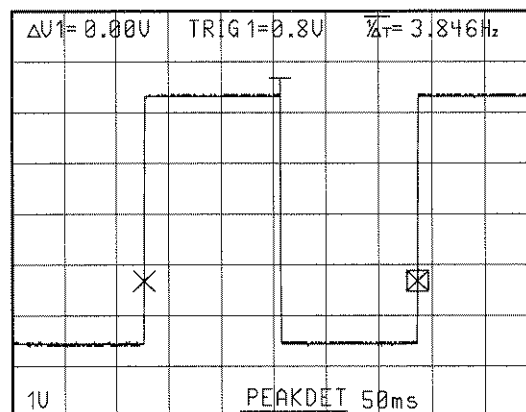

Figure 3-25: Low-Frequency Signal in the STORE Mode
- ☐ **Step 7:** Set the oscilloscope to **STORE** mode (Figure 3-25). Note that the annoying flicker of the **NON-STORE** display is removed.